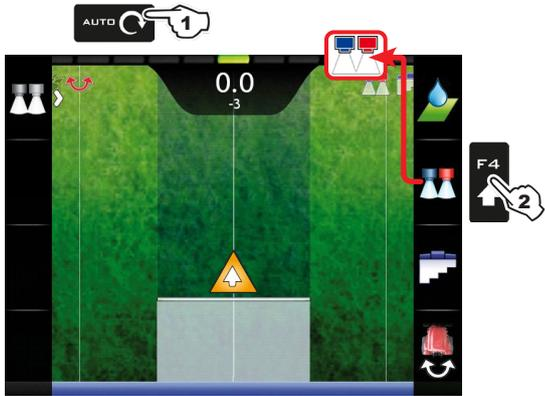

Fig. 267
- 2 Press **F4** (Fig. 267) to enable or disable automatic selection.
The number of nozzles displayed in Fig. 267 will vary according to the spraying point setting (par. 6.5.1).